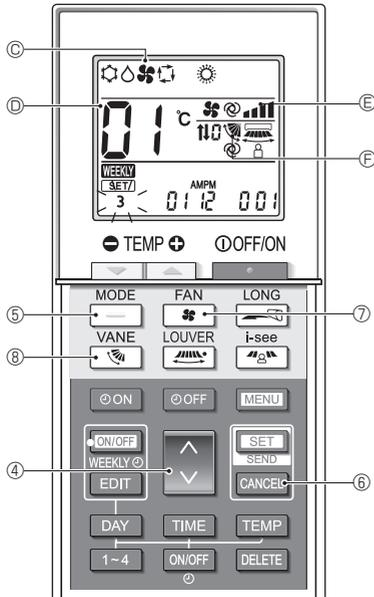
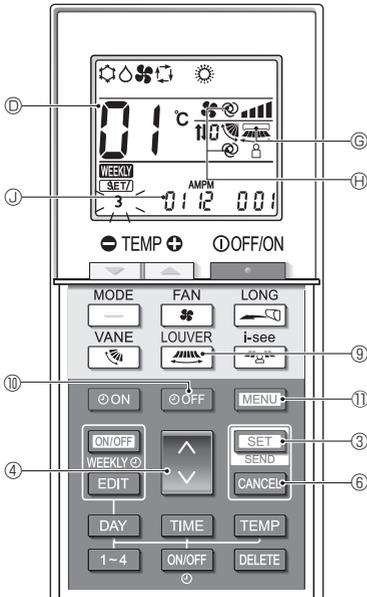

Fig. 6-2
Fig. 6-3
(Fig. 6-2, Fig. 6-3)
- If the setting is incorrect, press the **CANCEL** button ⑥ and repeat the procedure from step 1.
6.4. Completing the settings (Fig. 6-3)